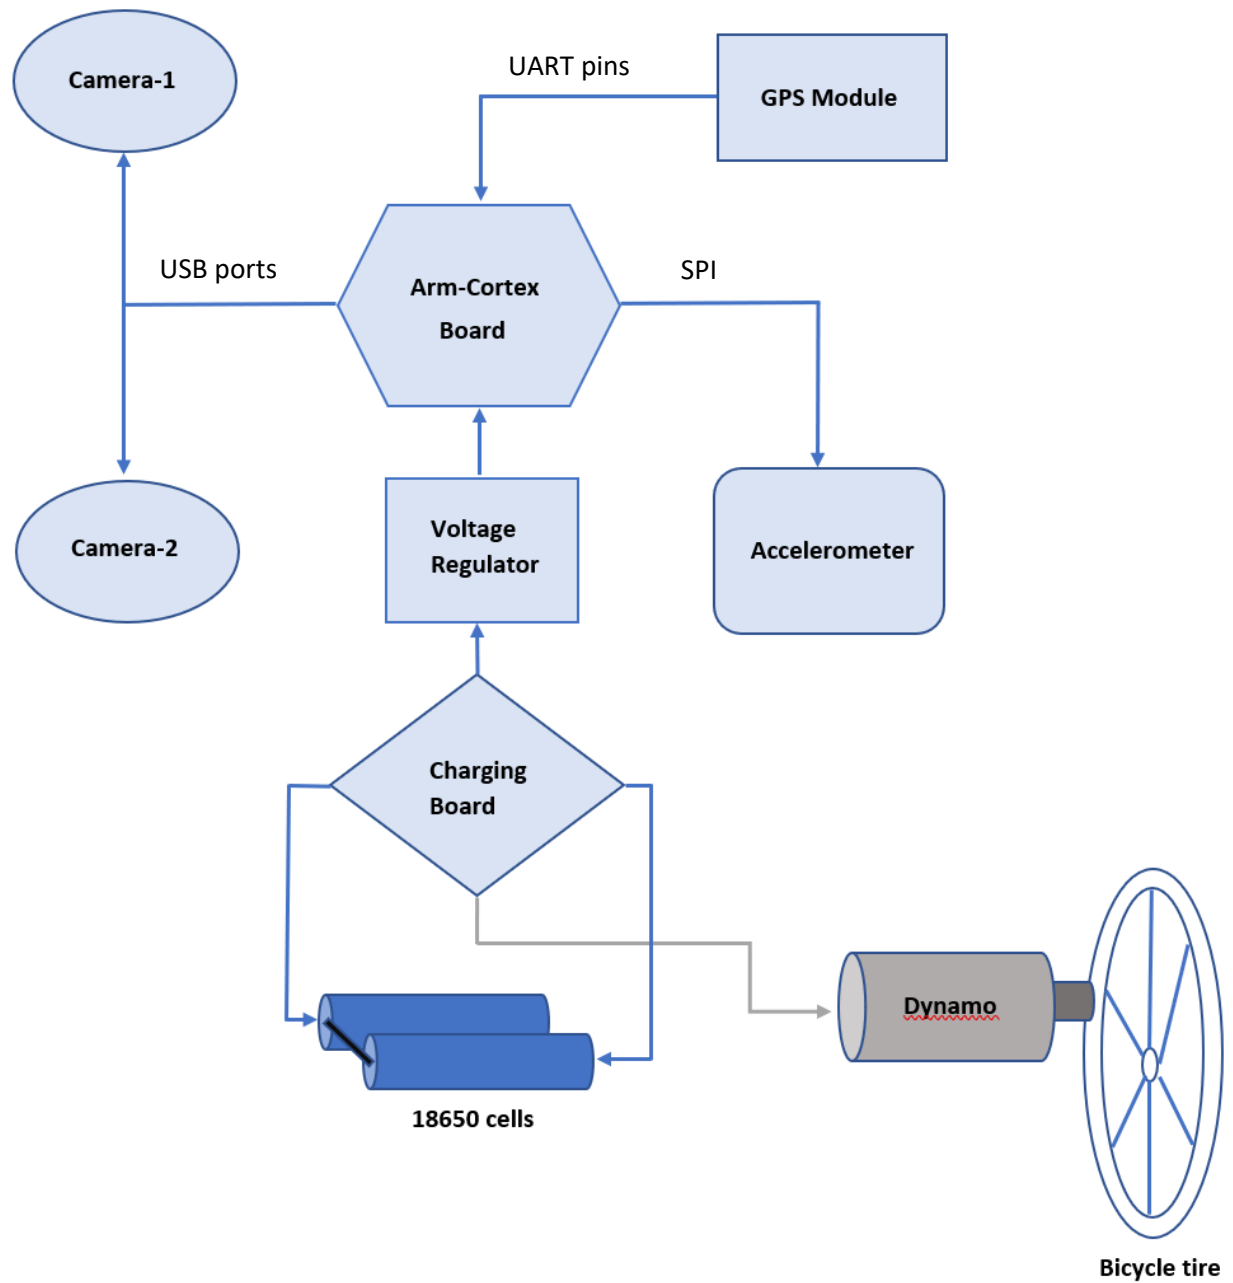

Fig 4 System level architecture
- **Dynamo:** The dynamo that we'll be using is a 12v 6w nickel plated iron dynamo which uses the mechanical rotation of the wheels of a bicycle to generate DC power as shown in the fig 4.